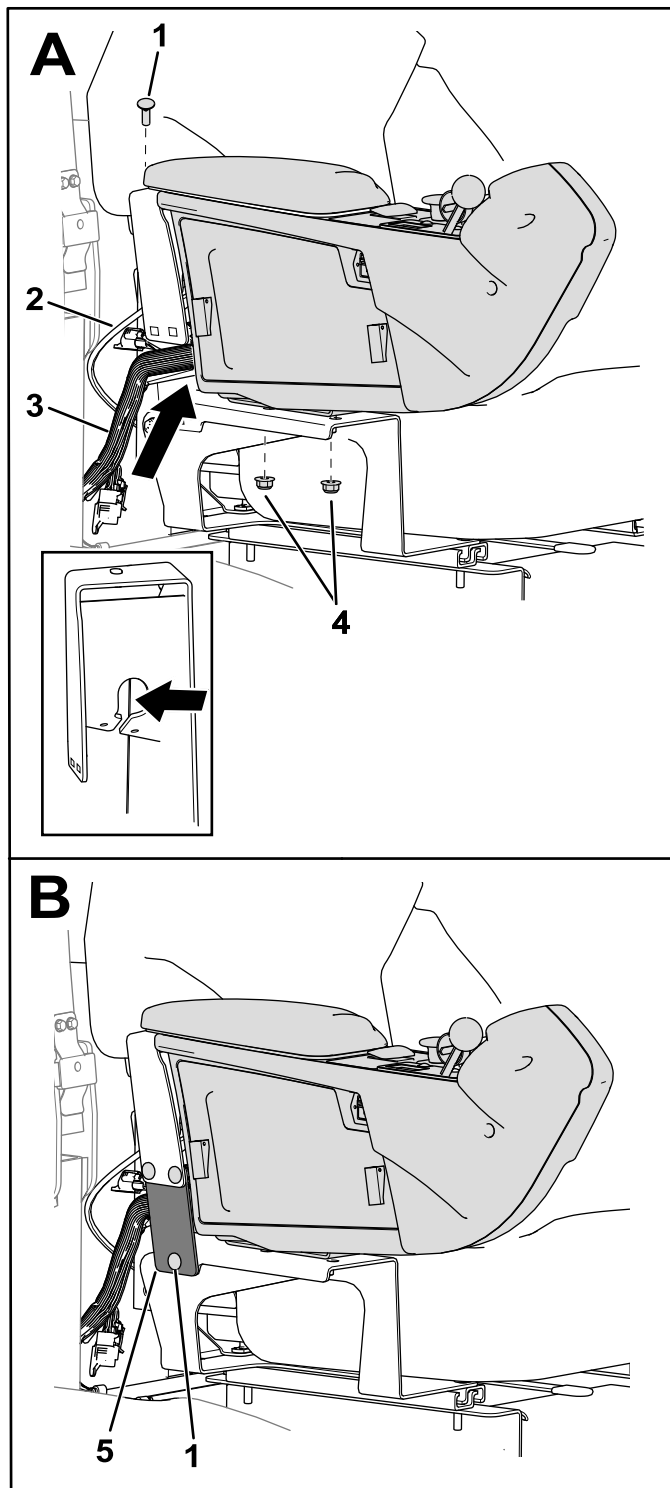

Figure 4
2. Position the console to the seat bracket (A in Figure 4).
For Model No. 31900, 31901, 31907, and 31909 machines: Ensure that the throttle cable is positioned in the seat-bracket gap above the wire harness (inset of A in Figure 4).
4. Secure the plate to the seat bracket with 3 carriage bolts and 3 nuts (B in Figure 4).